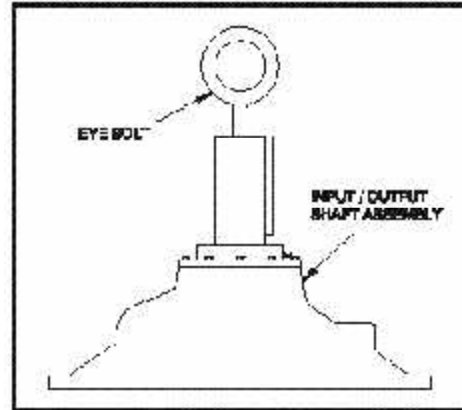

Figure 6.3.1—Proper Lifting of Input or Output Shaft Assemblies
7. Remove assembly by lifting it straight up away from the maincase. An eye bolt can be used in the threaded end of the shaft to lift the assembly; reference Figure 6.3.1. **DO NOT LIFT ENTIRE REDUCER BY THE THREADED HOLE ON EITHER SHAFT.**